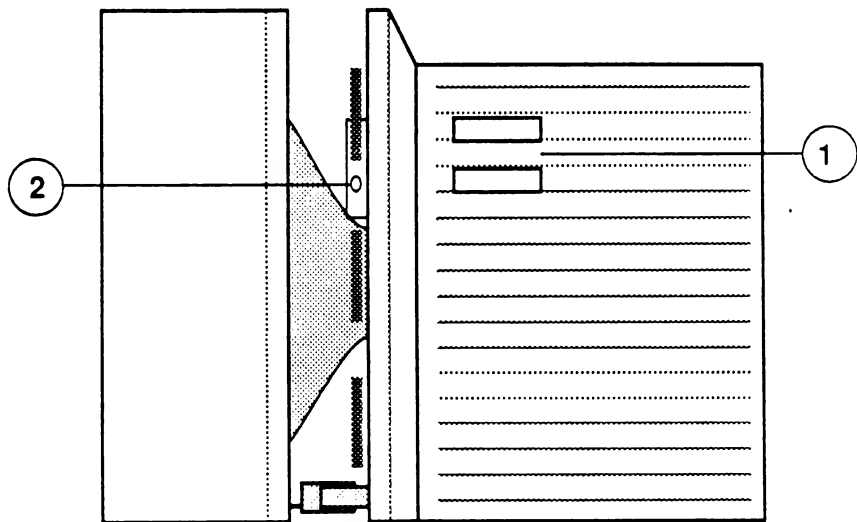

FIGURE 2
5. Set the monitor back on its feet, and turn it so that the on-off and brightness switches (Figure 2, #1) are toward you.
6. Gently slide the rear cover an inch or two away from the bezel as shown in Figure 2.
7. To separate the bezel from the rear case, first remove the switch case by removing the screw that holds it to the side of the rear cover (Figure 2, #2), and sliding the case forward out of the rear cover.